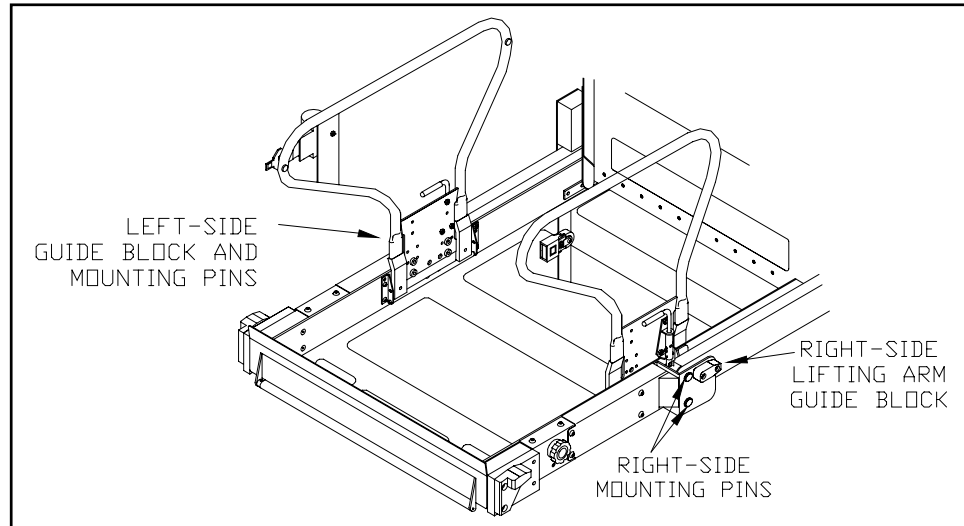

FIGURE 4-9: PLATFORM MOUNTING PINS AND GUIDE BLOCKS
- 12) Refer to **Figure 4-9**. Remove the bottom platform mounting pins from the mounting brackets and lower the parallel arms out of the platform mounting brackets.